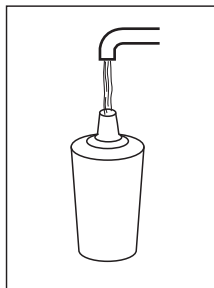

Fig. 18
- Fill the filter with water (**Fig.18**)